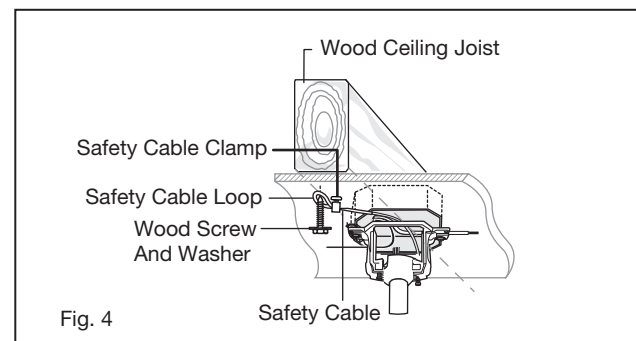

Fig. 4
**NOTE:** The tab opposite hanger bracket opening should fit in slot on ball. (Fig. 4)
- 2 Connect the black lead wires from the switch in the cradle A to the black wires in the switch box. Hot input wire to one of the cradle switch leads. Power lead to the fan is connected to the remaining switch lead. (Fig. 4)